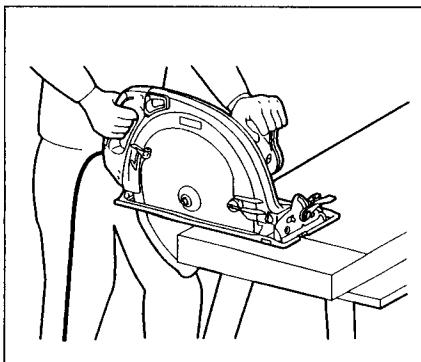
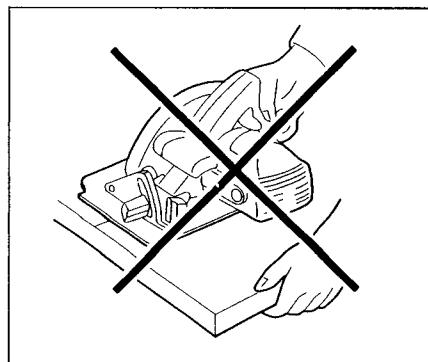

Fig. 5
Fig. 6
22. Place the wider portion of the saw base on that part of the workpiece which is solidly supported, not on the section that will fall off when the cut is made. As examples, Fig. 5 illustrates the RIGHT way to cut off the end of a board, and Fig. 6 the WRONG way. If the workpiece is short or small, clamp it down. **DON'T TRY TO HOLD SHORT PLACES BY HAND!**